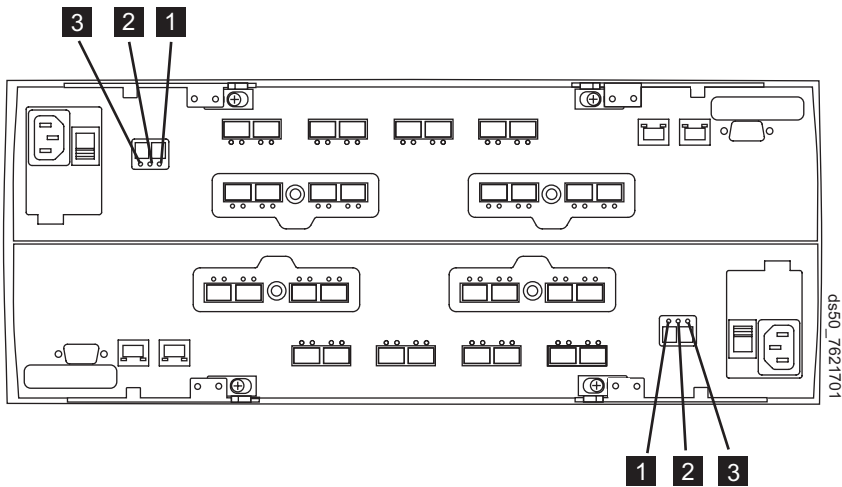

Figure 114. Controller Service Action LEDs
30. Look at the LEDs on the controller to verify the controller is rebooting correctly. Figure 114 shows the locations of the LEDs.
Table 55. Description of Figure 114